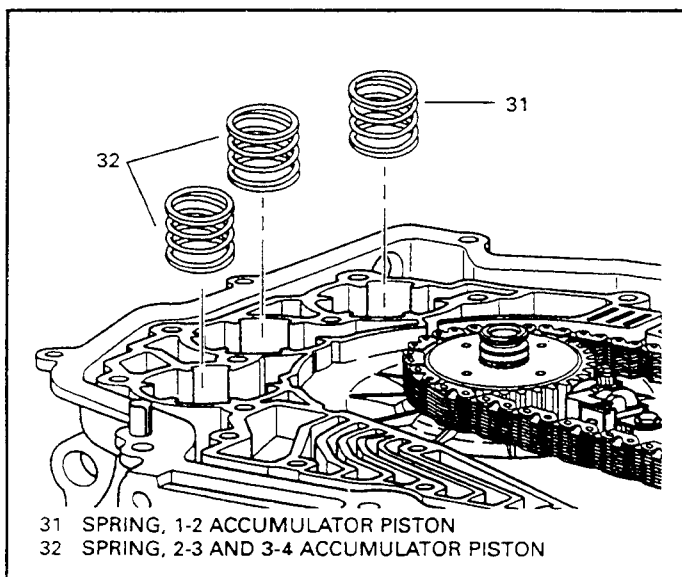

Figure 63
54. Remove the three accumulator springs from the case, as shown in Figure 63.
Note: The 1-2 accumulator spring is different than the 2-3 and 3-4 accumulator springs, and is shown in Figure 63.